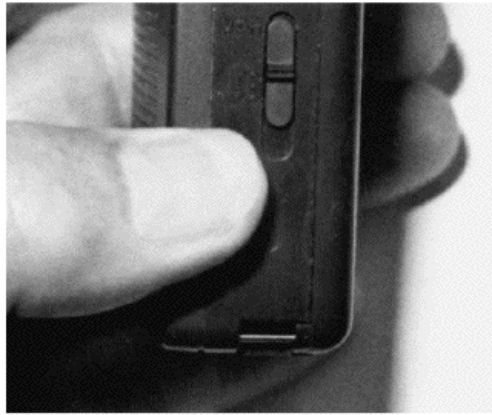

FIGURE 18-7 Most standard VOR recording operation is done in the high-level position.
For VOR operation, place the VOR in the high-level position (L). Some microcassette recorders have H, L, and Off positions (Fig. 18-7). Push Record; the recorder will start, then stop if no noise or talking is detected. Start to talk and notice how the voice recording operates.